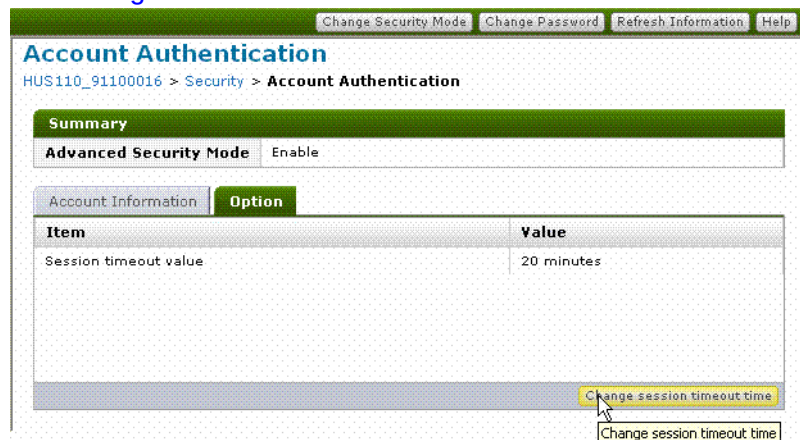

Figure 5-11: Account Authentication Option tab
5. Click the **Option** tab. The Account Authentication - Option tab displays as shown in Figure 5-11